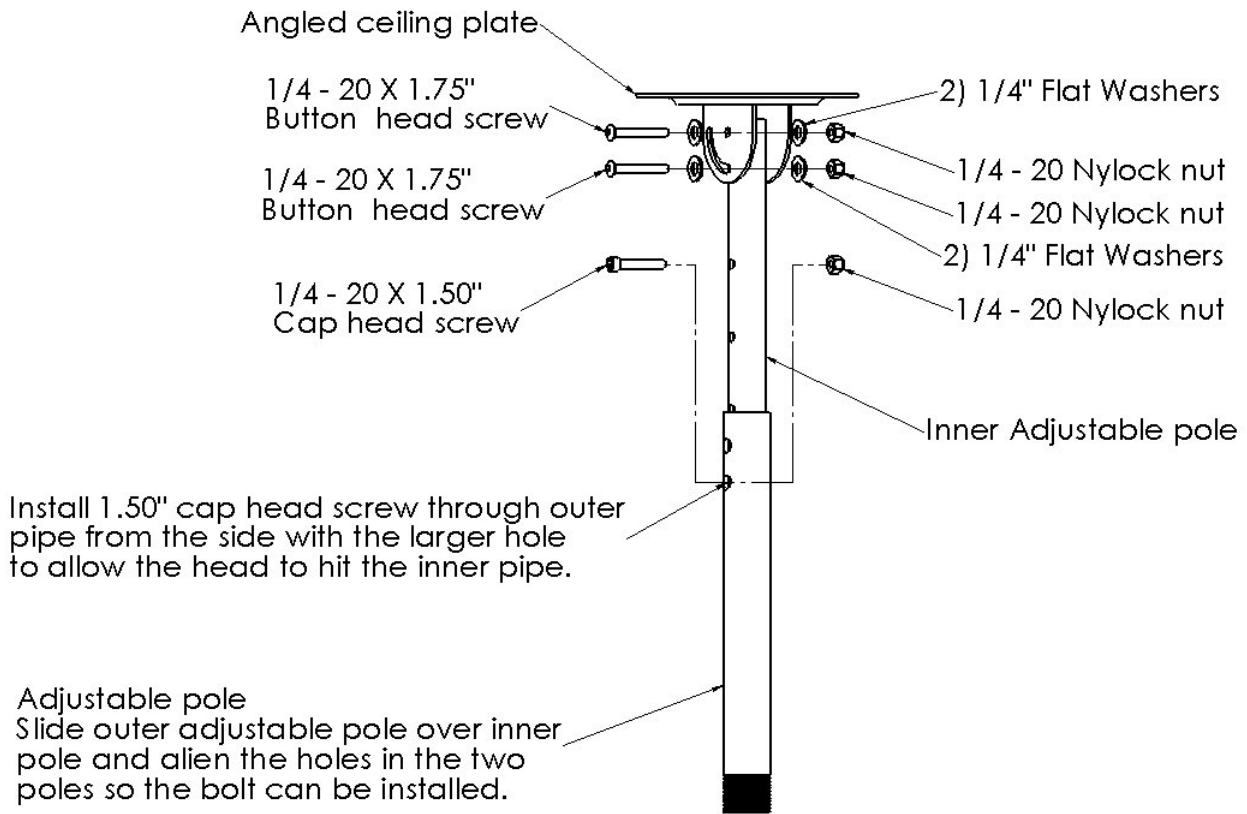

Figure 4. PIPE TO ANGLED PLATE
1. Select the angled ceiling plate, inner adjustable pole, washers, bolts and nuts for assembling the pipe and ceiling plate (see Figure 4).